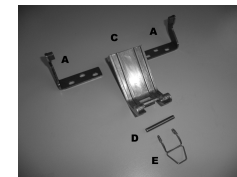

Figure 8
- C. Use brackets "A" art. 4010118 and hinge "C" art. 4010115 (both sold separately. Fig. 8).
- F. Fix the brackets (A) to the frame using flat head screws as indicated above. Ensure that the brackets are aligned both horizontally and vertically.
- G. Fix the hinge for bottom hung windows (C) on the sash.